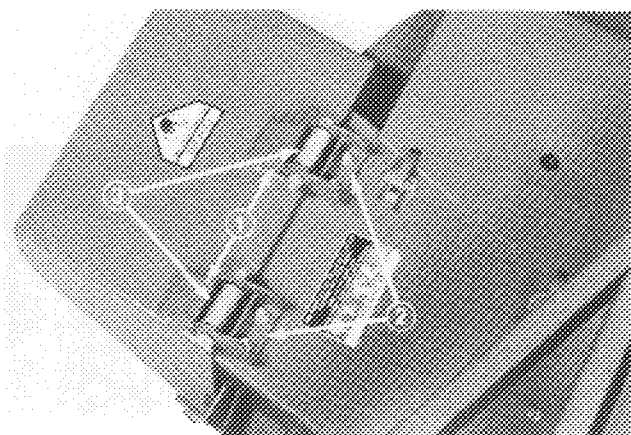

Figure 34
2. Remove two capscrews, locknuts, and springs securing deflector mounts to pivot brackets (Fig. 34).
3. To remove the pivot brackets, remove carriage bolts and locknuts (Fig. 34).